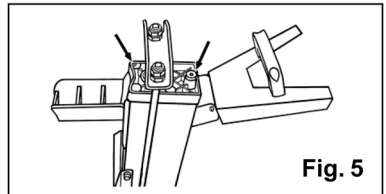

Fig. 5
- Lift the towing handle and keep the tank in vertical position. (Fig.5)
- Disconnect the vent plug and dipstick from the front cylinder cover. (Fig. 5)